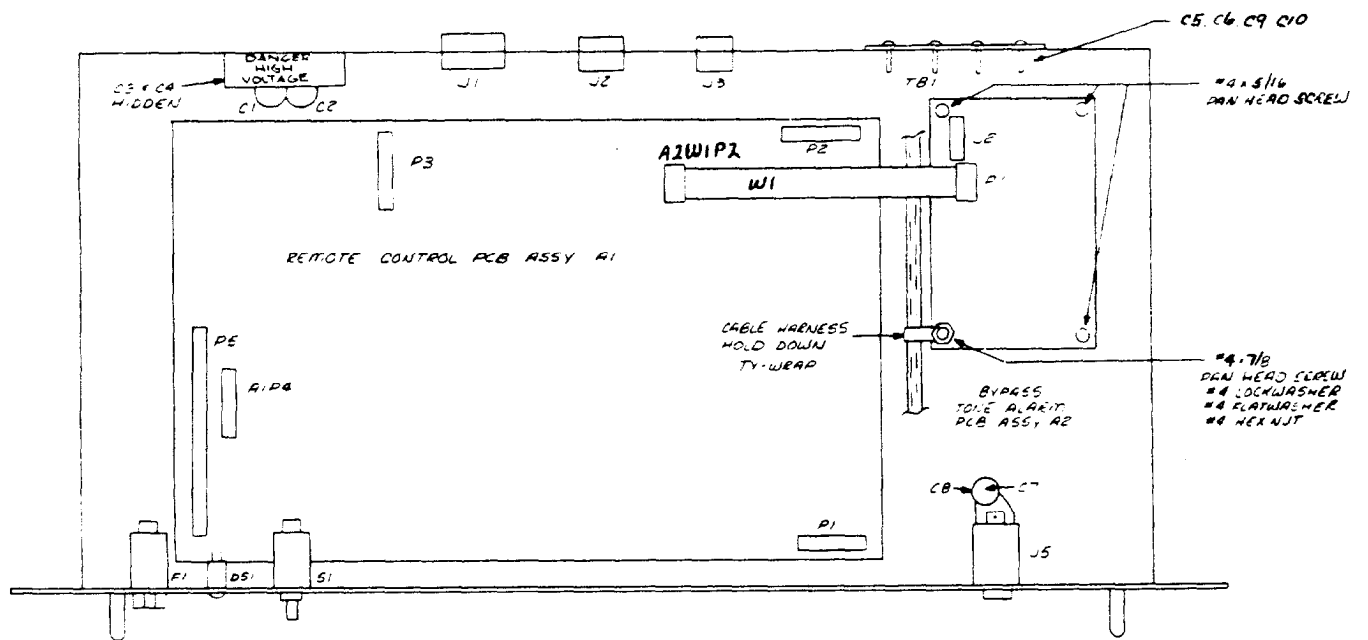

Figure 1. Remote Control Unit Chassis, Component Locations
3. Remove the hardware holding down the cable harness ty-wrap located in the front right corner of the SR-402RA. The hardware can be discarded as new hardware is provided with this field installation kit. The Bypass Tone Alarm PC Board Assembly is to be installed using the four unused holes on the right side of the chassis. Refer to Figure 1.
4. Place the Bypass Tone Alarm PC Board over the unused holes. Refer to Figure 1.
5. The Bypass Tone Alarm PC Board is mounted using the hardware supplied with the field install kit, The #4 x 7/8 pan head screw is installed from the underside of the chassis through the threaded staked standoff located in the left front corner of the 402975 PC Board Assembly, refer to Figure 1. The screw should be inserted fully so that cable harness ty-wrap removed earlier can be re-installed on this screw.
6. Install the remaining three (3) #4 x 5/16" pan head screws from the underside of the chassis into the threaded staked standoff on the board, refer to Figure 1.